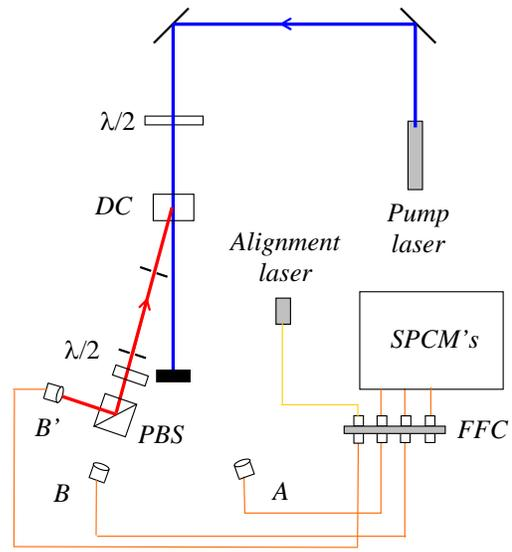

Fig. 4. Aligning the **B'** detector.
- Unscrew the **B**-fiber from the alignment laser, and reconnect it to the fiber leading to the detector. Connect the **B'**-fiber to the alignment laser, as shown in Fig. 4. At this point the beam won't go back through the irises.